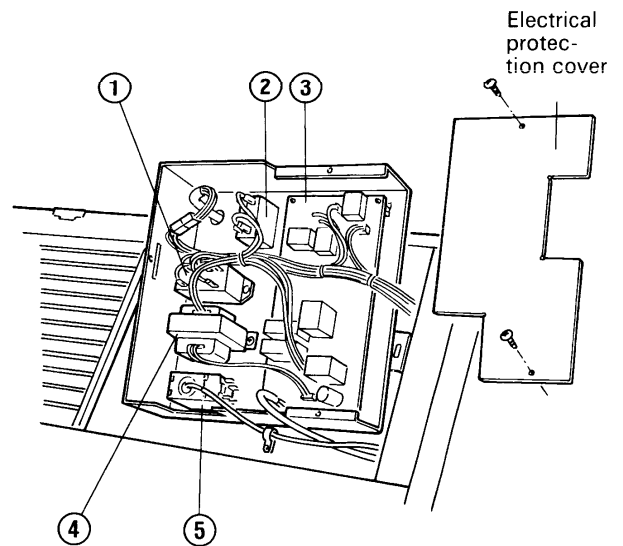

Fig. 5
- (4) When the three fixing screws are removed, the electric protection cover can be removed.
- (5) The electrical components in the electrical component box all can be checked in this condition. Fig. 5